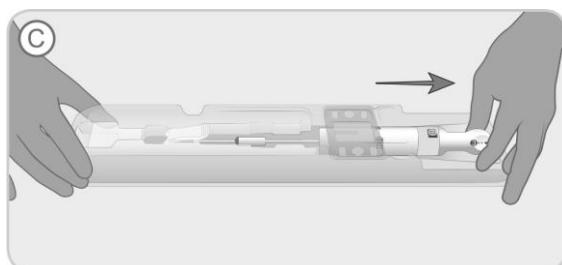

Figure 4. Pull device handle back to firm stop.
- C. Holding the tray steady, grip the rear of the handle (release cam) and pull until a firm stop is reached (indicated on the tray with “C”), Figure 4. The implant is now folded in the loading cannula tube.